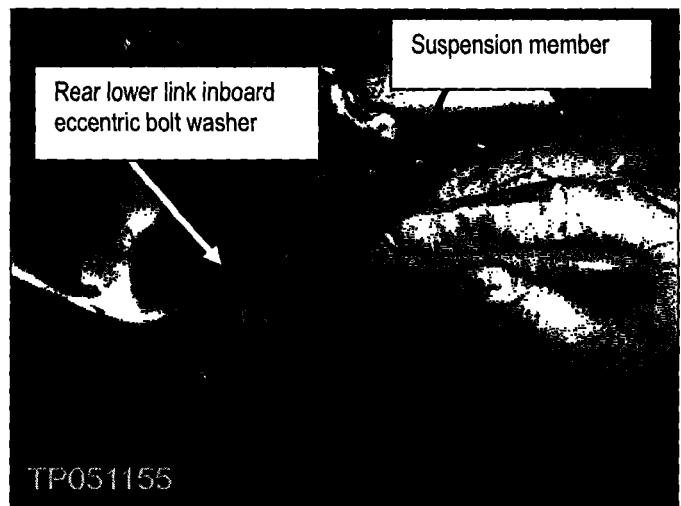

Figure 23
- b. Place another index mark across the rear lower link inboard eccentric bolt washer and the suspension member for proper re-assembly (see Figure 23).